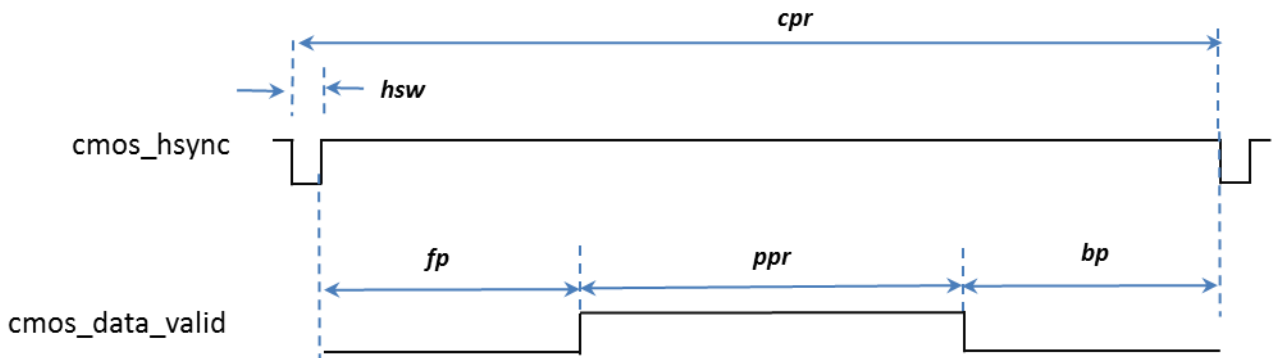

Figure 45: Line Timing of the CMOS Output Channel
3. Each row period consists of four distinct sections, as depicted in Figure 45: